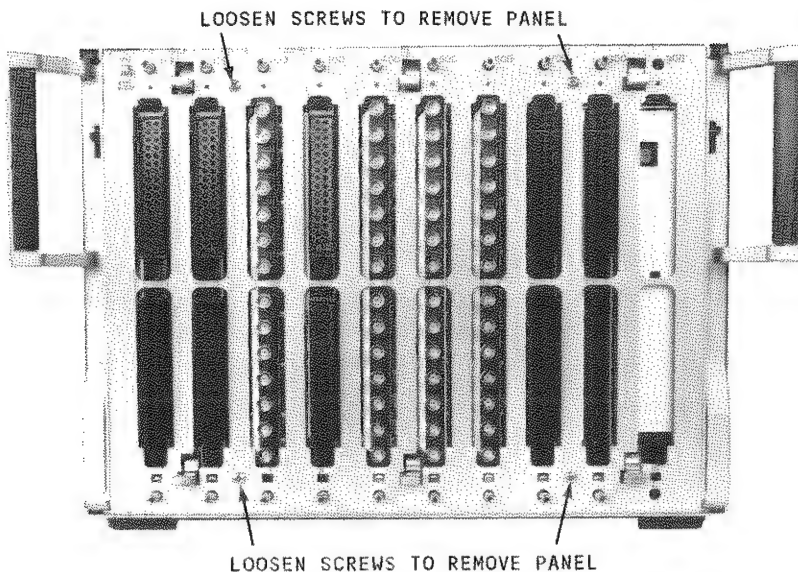

Figure 23. Removing Card Cage Front Panel.
3. Remove the panel in front of the card cage (Figure 23).